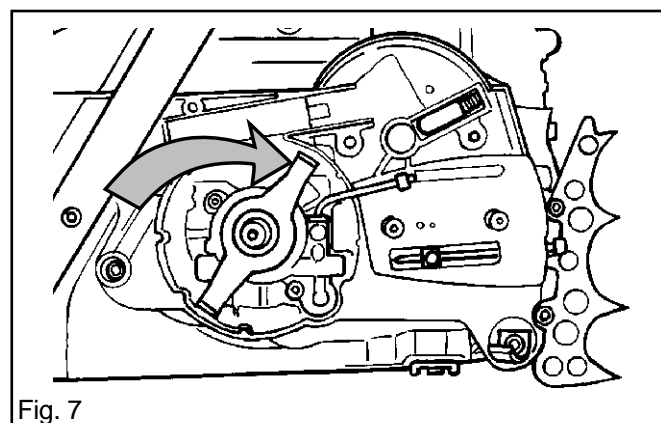

Fig. 7
8. Fit the drive wheel. See fig. 7.
In full throttle mode (fig. 7) both butterflies are open and fuel is supplied through all three diffuser jets (E, F and G).